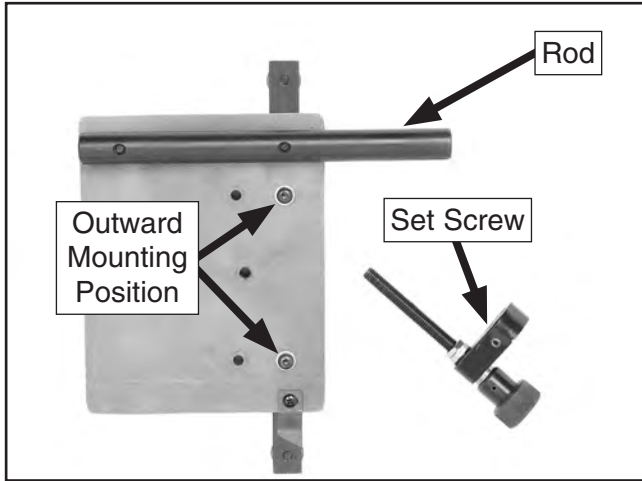

Figure 10. Guide bar mounted in the outward position.
- Loosen the set screw on the micro-adjust collar, then remove the micro-adjust assembly from the rod, as shown in **Figure 10**.
- Remove the cap screws and washers securing the guide bar to the base plate, then re-install the bar in the outward mounting position, as shown in **Figure 10**.